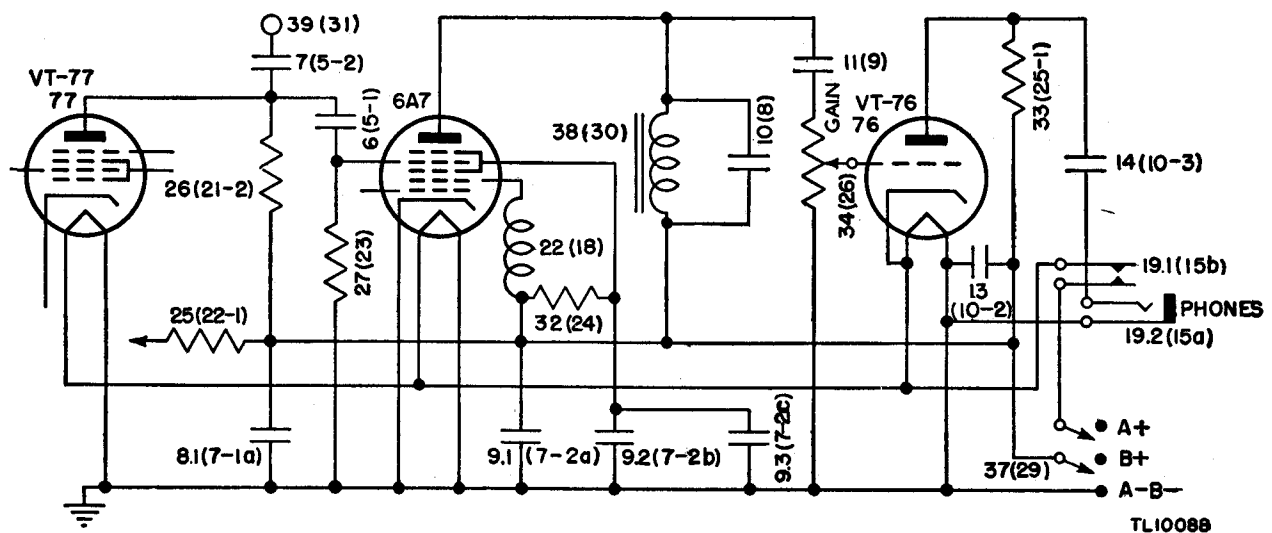

Figure 30. Frequency Meter BC-221-(r), functional diagram, detector and audio-amplifier circuits.
(2) At the CRYSTAL ON position, the output of oscillator Tube VT-77 is applied to one of the grids of detector-converter tube 6A7 where it is mixed with the output frequency of the crystal circuit. The result is a frequency equal to the difference of the two and is used to adjust the frequency of the oscillator with the CORRECTOR control.
(3) At the CRYSTAL OFF position, the variable frequency oscillator is in operation, while the crystal oscillator is not. If the antenna is in position, the frequency meter may be used to receive or send any frequency in its range; that is, it may be used as a radio receiver or transmitter.
It has been stated that the three inner elements of the type 6A7 tube are used in the crystal oscillator circuit. The remaining elements of this tube (comprising the control grid, screen grid, and plate) are used as a high gain screen grid detector to which, by tube structure, the crystal oscillator is electronically coupled. (See fig. 30.) The r-f voltage, developed across load resistor 26 (21-2) in the plate output circuit of the variable frequency oscillator, is coupled to the control grid of this detector through a small fixed capacitor 6 (5-1). Antenna plug 39 (31), mounted on the chassis, is also coupled to the control grid of the detector, through coupling capacitors 7 (5-2) and 6 (5-1) in series. Resistor 27 (23) is the detector tube grid leak. As a result of these couplings to the control grid, the detector mixes the variable frequency oscillator output with the fundamental and successive harmonics of the crystal oscillator, when the CRYSTAL switch is in the ON position and with the radio transmitter frequency to be measured, when the CRYSTAL switch is in the OFF position. When the CRYSTAL switch is thrown to the OFF position, crystal 23 (19) and its shunt resistor 31 (21-3) are short-circuited and the inner grid